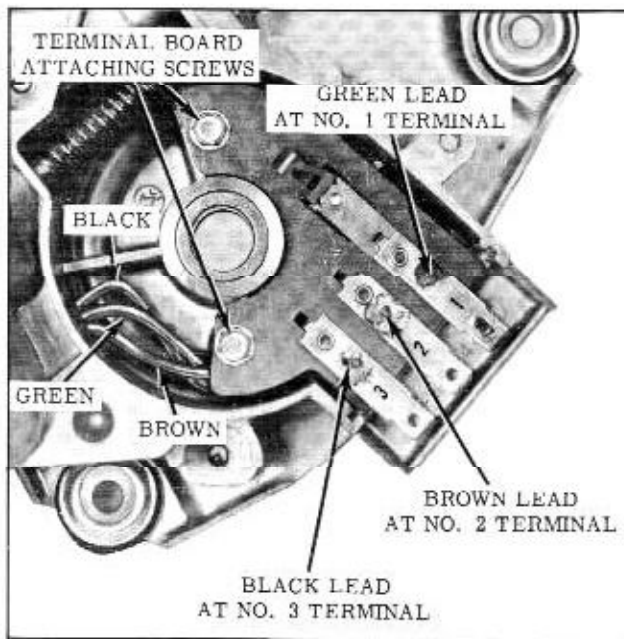

Fig. 13-125 Removing Terminal Board
4. Remove 2 terminal board attaching screws and lift terminal board from gear housing. Unsolder the black wire from connection at terminal board. (Fig. 13-125)
4. Solder black wire to proper terminal of the terminal board. (Fig. 13-125) Solder the black lead on opposite end of same field coil to the circuit breaker contacts on the brush plate.